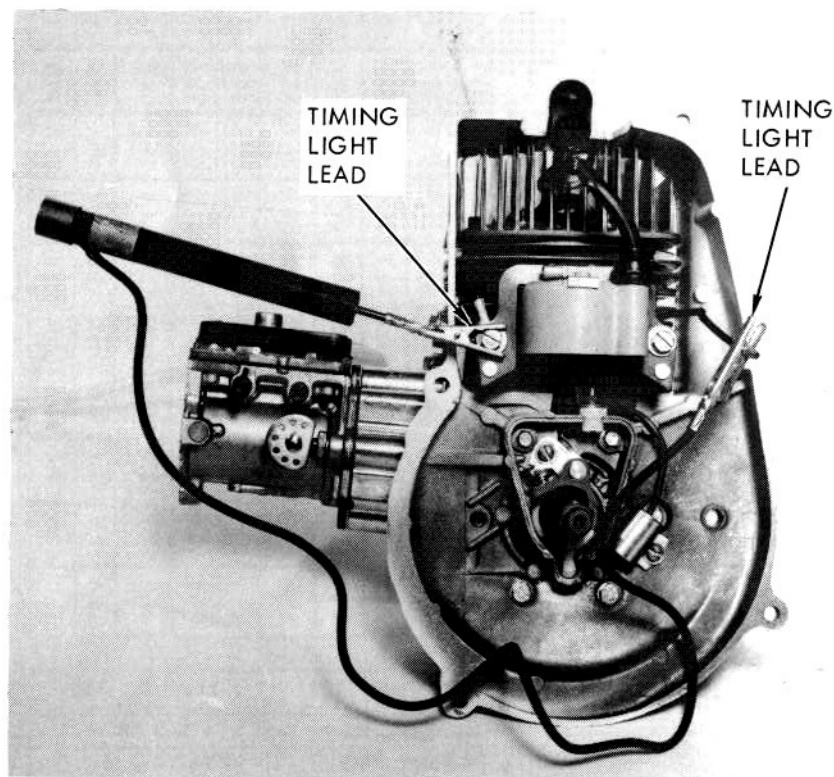

FIGURE 15
14. Connect one timing light lead to the breaker point lead and the other lead to the engine (Figure 15).